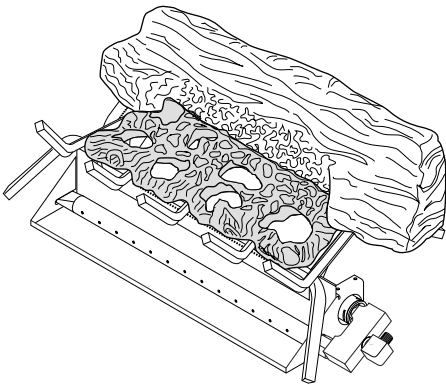

Figure 19 - Installing Back log
2. Position the back log flush against back of ember bed as shown in Figure 19.